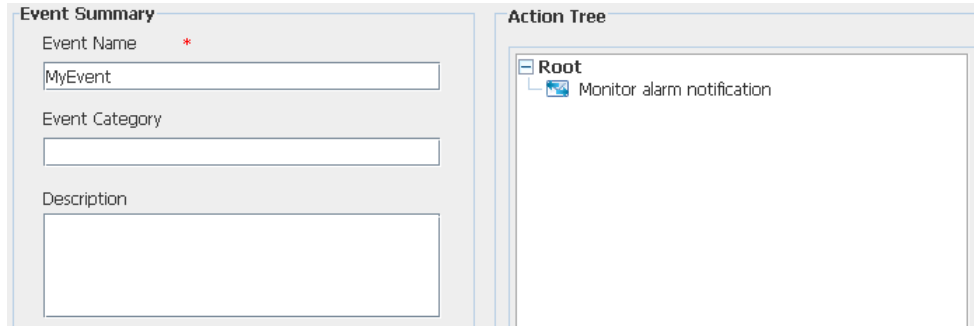

Figure 53. A new action has been added.
- 1 Mark the action under *Root*, and click “Conditions” to add success/failure conditions. See figure 53 on page 50.